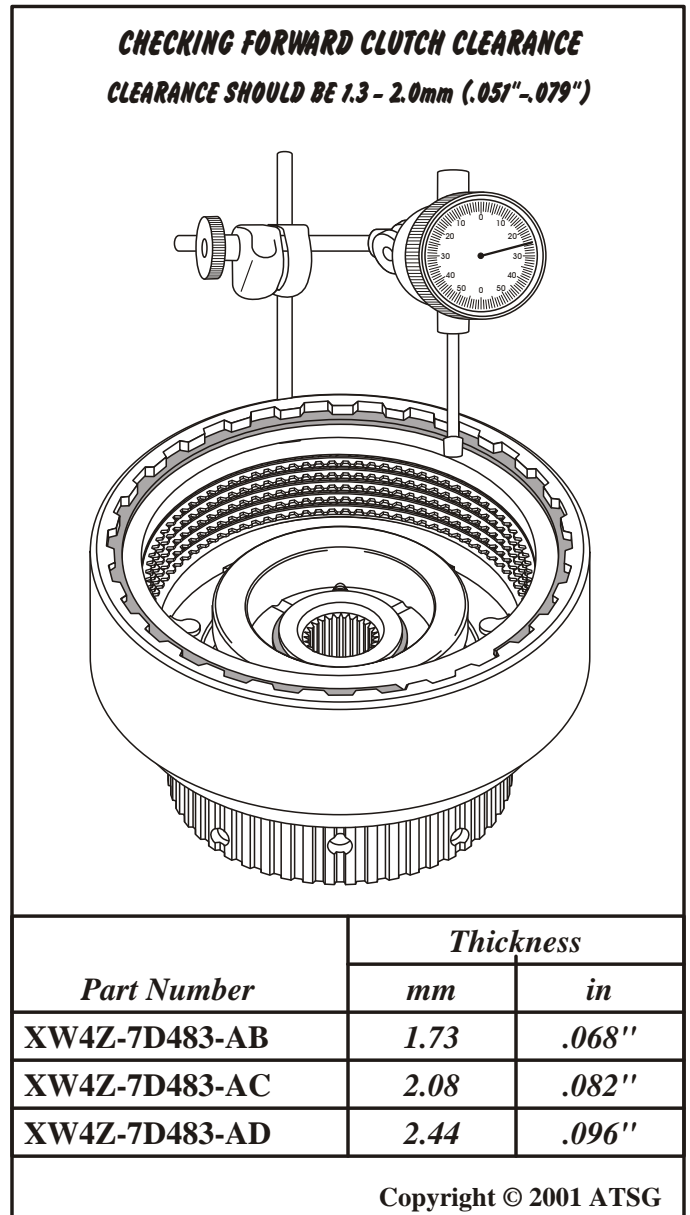

Figure 90
17. Install dial indicator on top of backing plate, as shown in Figure 90, and check the amount of forward clutch clearance. Clearance should be 1.3 - 2.0mm (.051" - .079") (See Figure 90).
18. Change the selective backing plate snap ring as necessary, using the chart in Figure 90, to get the proper forward clutch clearance.